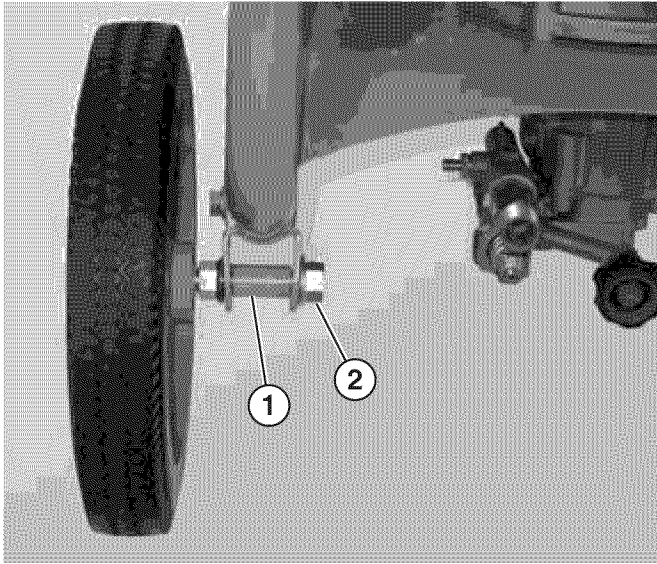

Figure 8 – Assemble Wheels to Frame WP2500
- WP2500 only: Install the wheel with bolt through the spacer and the frame (see Figure 8).
- WP2500 only: Install the serrated flange nut and tighten (see Figure 8).